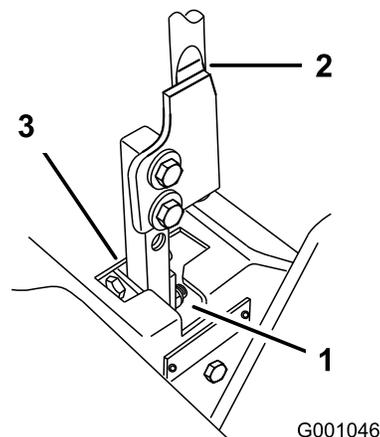

Figure 96
5. Move the lever to the neutral position but not locked (Figure 96).
6. Pull the lever back until the clevis pin (on arm below pivot shaft) contacts the end of the slot (just beginning to put pressure on the spring) as shown in Figure 96.
7. Check where the control lever is relative to notch in console (Figure 96).